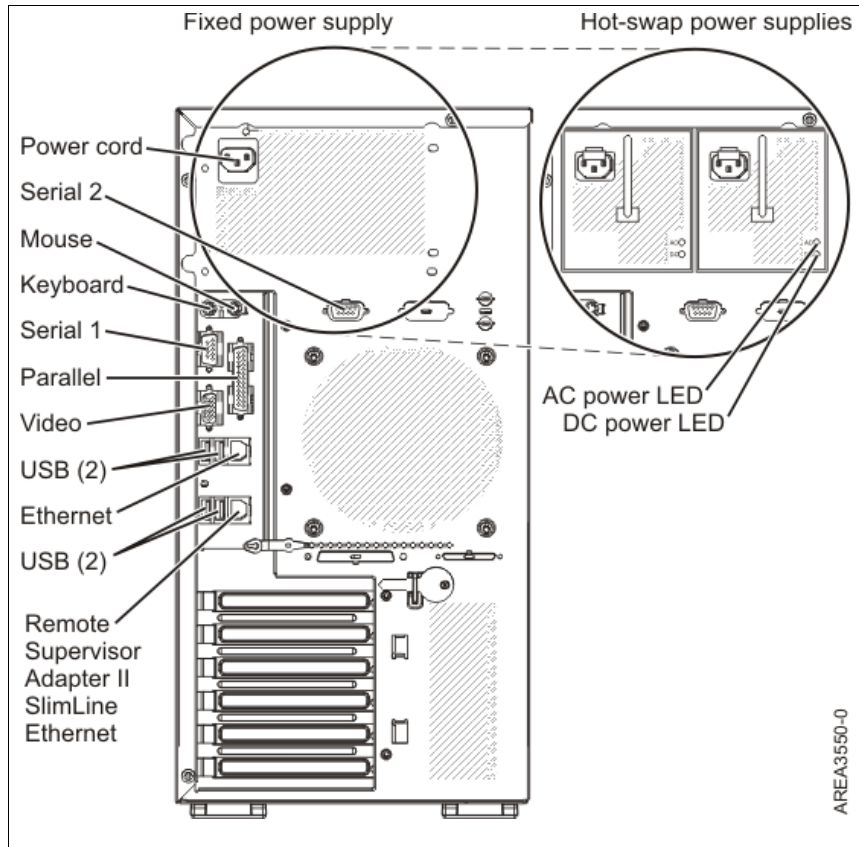

Figure 3-4 Back view of a stand-alone HMC 7310-C06
- A stand-alone HMC 7310-C06 (Figure 3-4 on page 73)